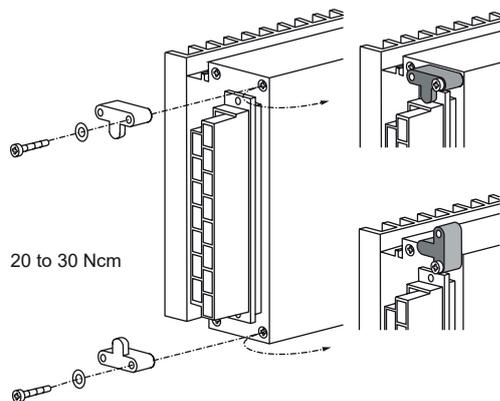

Fig. 23
- Connector retention brackets HZZ01216-G; see fig. 23